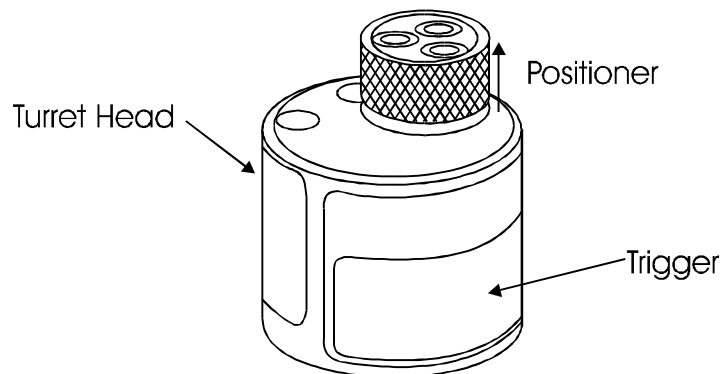

Figure 1-26
- Press the trigger on the turret head to release the positioner into the extended or indexing position, as illustrated in Figure 1-26.